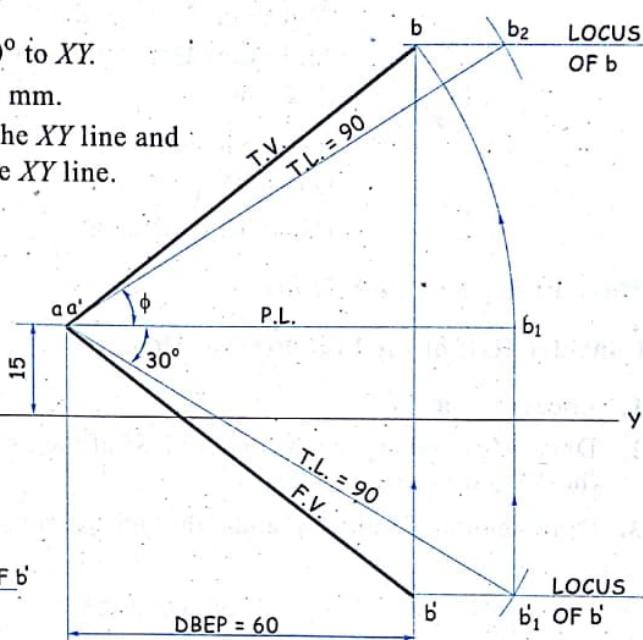

FIG. 8.30 (b)
**Stage I : Refer figure 8.30 (a).**